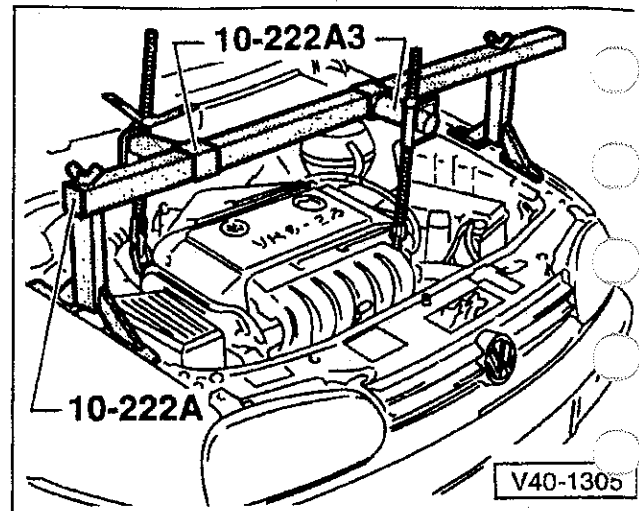

Fig. 20. Engine lifting equipment used to support weight of engine/transmission. Numbers shown are for VW special tools.
14. Attach engine lifting equipment (VW sling 10-222A and adjust 10-222A3 adapters, or equivalent) to engine lifting eyes. Adjust the lifting sling until the weight of the engine is fully supported. See Fig. 20.